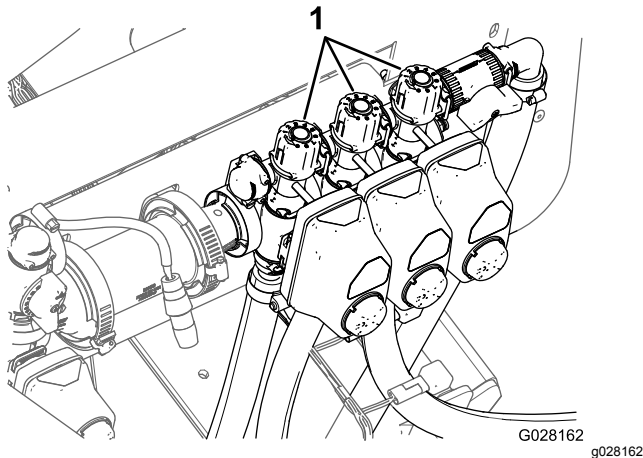

Figure 30
9. Adjust the section bypass valve (Figure 30) at the top of the section control valve for the boom section you turned off until the pressure reading on the gauge is the same as the pressure reading that you recorded in step 7.